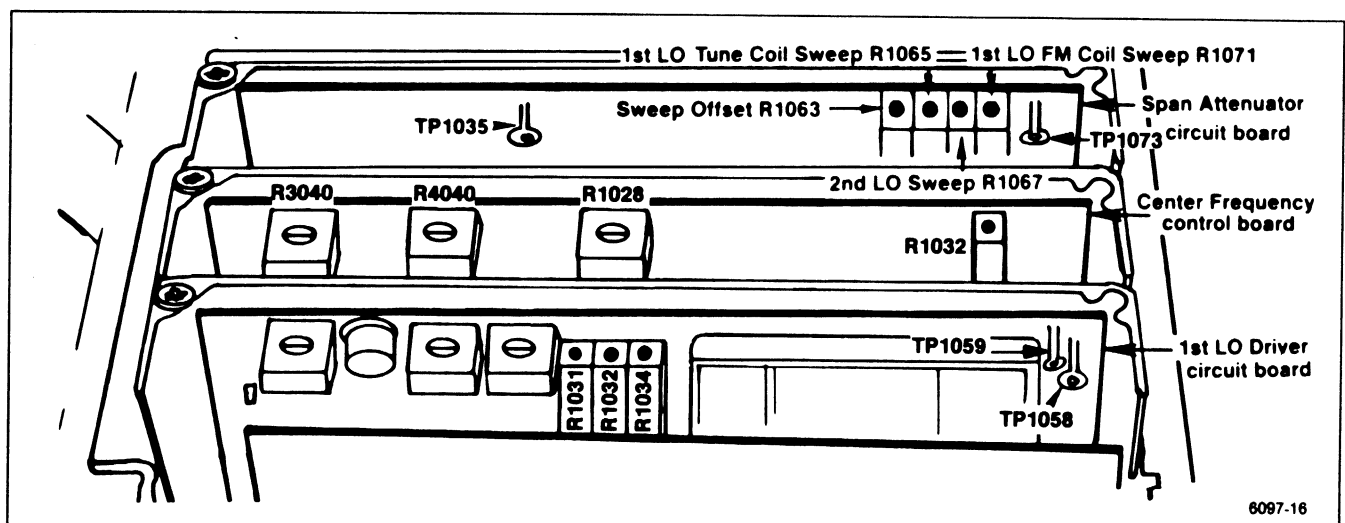

Figure 5-10. Frequency control system test point and adjustment locations.
b. Connect a shorting strap from TP1035, on the Span Attenuator board, to chassis ground (Figure 5-10). Monitor TP1073 with the voltmeter.
c. Adjust Sweep Offset R1063 (Figure 5-10) for 0.00 V.
d. Remove the shorting strap from TP1035. Press <SHIFT> 0 and select item 1 (FREQUENCY LOOPS CAL), then item 0 (OVERALL SYSTEM) from the menus. Perform the calibration steps as directed ("CONNECT A DVM TO TP1058 ON THE 1ST LO DRIVER BOARD AND GROUND"), etc.
(1) If a "CALIBRATION STEP CANNOT BE COMPLETED" message is displayed, bypass the step, perform the other adjustments then return to the adjustment and try to bring the adjustment in range. If the problem persists, refer to Troubleshooting the Frequency Control System, in the Maintenance section.
(1) Apply the CAL OUT signal to the RF INPUT, set the FREQUENCY to 600 MHz, FREQ SPAN/DIV to 100 MHz, and set the REF LEVEL to display the markers.
(2) Adjust Tune Coil Swp R1065, on the Span Attenuator board (Figure 5-10) for one marker per division over the center eight divisions of the graticule. Reset the CENTER FREQUENCY as necessary to align the markers.
(3) Remove the Calibrator signal and apply 0.2  $\mu$ s time marks from the Time Mark Generator to the RF INPUT.
(4) Set the FREQ SPAN/DIV to 5 MHz, REF LEVEL to +10 dBm, and FREQUENCY to about 10 MHz.
(5) Adjust the 1st LO FM Coil Swp R1071 (Figure 5-10) for 1 marker/division over the center eight divisions of the display.
(6) Set the FREQ SPAN/DIV to 20 KHz and apply 50  $\mu$ s markers from the Time Mark Generator.
(7) Adjust the 2nd LO Sweep, R1067, for one marker/division over the center eight divisions.